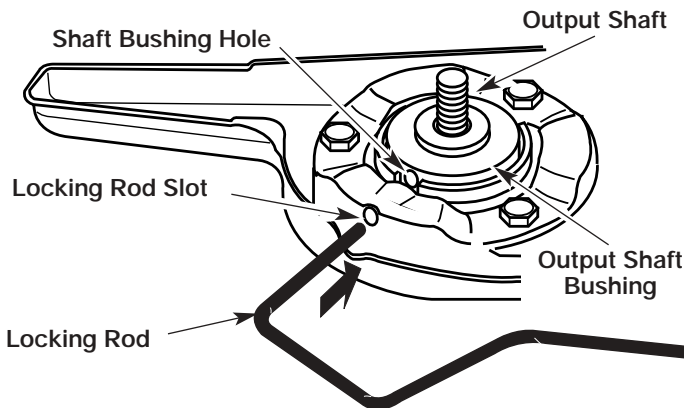

Fig. 14
1. Align the shaft bushing hole with the locking rod slot and insert the locking rod into the bushing hole (Fig. 14).
3. Align the shaft bushing hole with the locking rod slot and insert the locking rod into the bushing hole (Fig. 14).